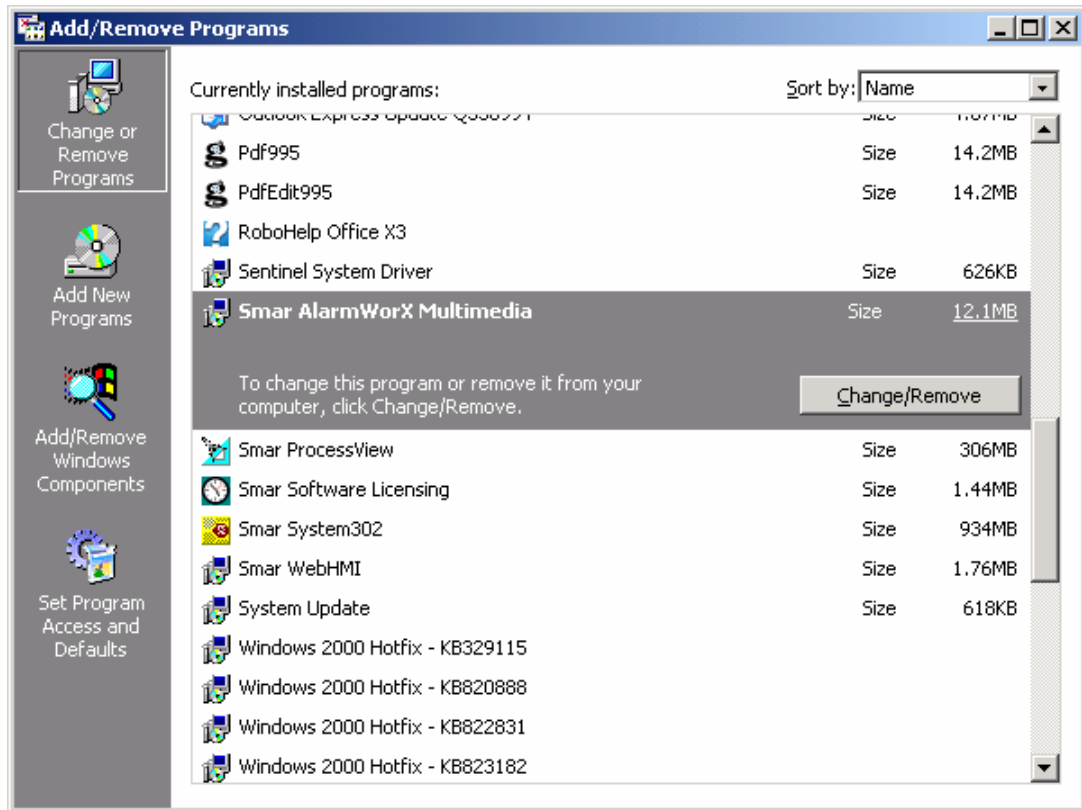

Figure 1.38. Windows Add/Remove Programs Dialog Box
3. This opens the Windows **Add/Remove Programs** dialog box, as shown in **Figure 1.38**. To make changes to the Multimedia installation, select **Multimedia Alarming** and click the **Change/Remove** button.